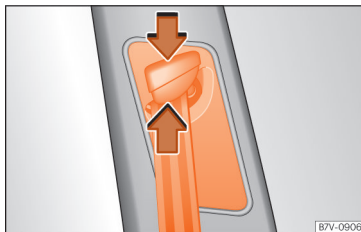

Fig. 15 Next to the front seats: belt height adjuster.
- Keep the guide device pressed down in the direction of the arrow » Fig. 15.